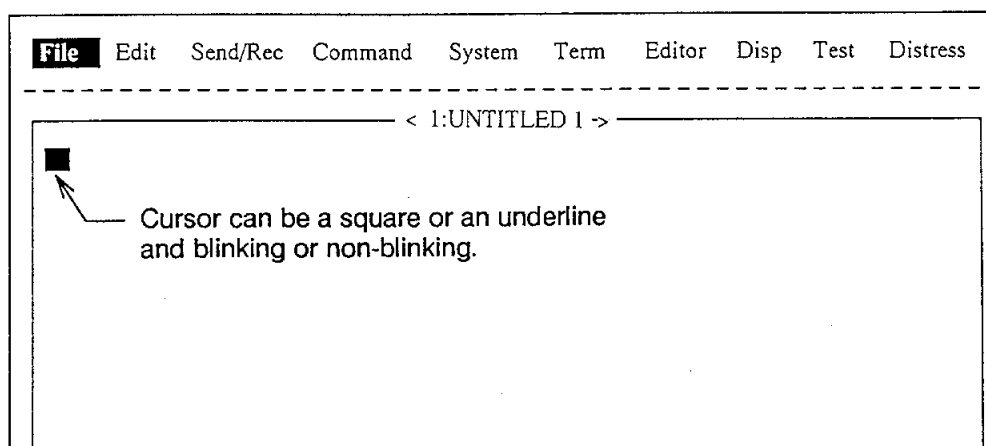

Figure 3-2 Text Editor Screen
2. Press the **Enter** key to select New. The display should now look something like Figure 3-2.